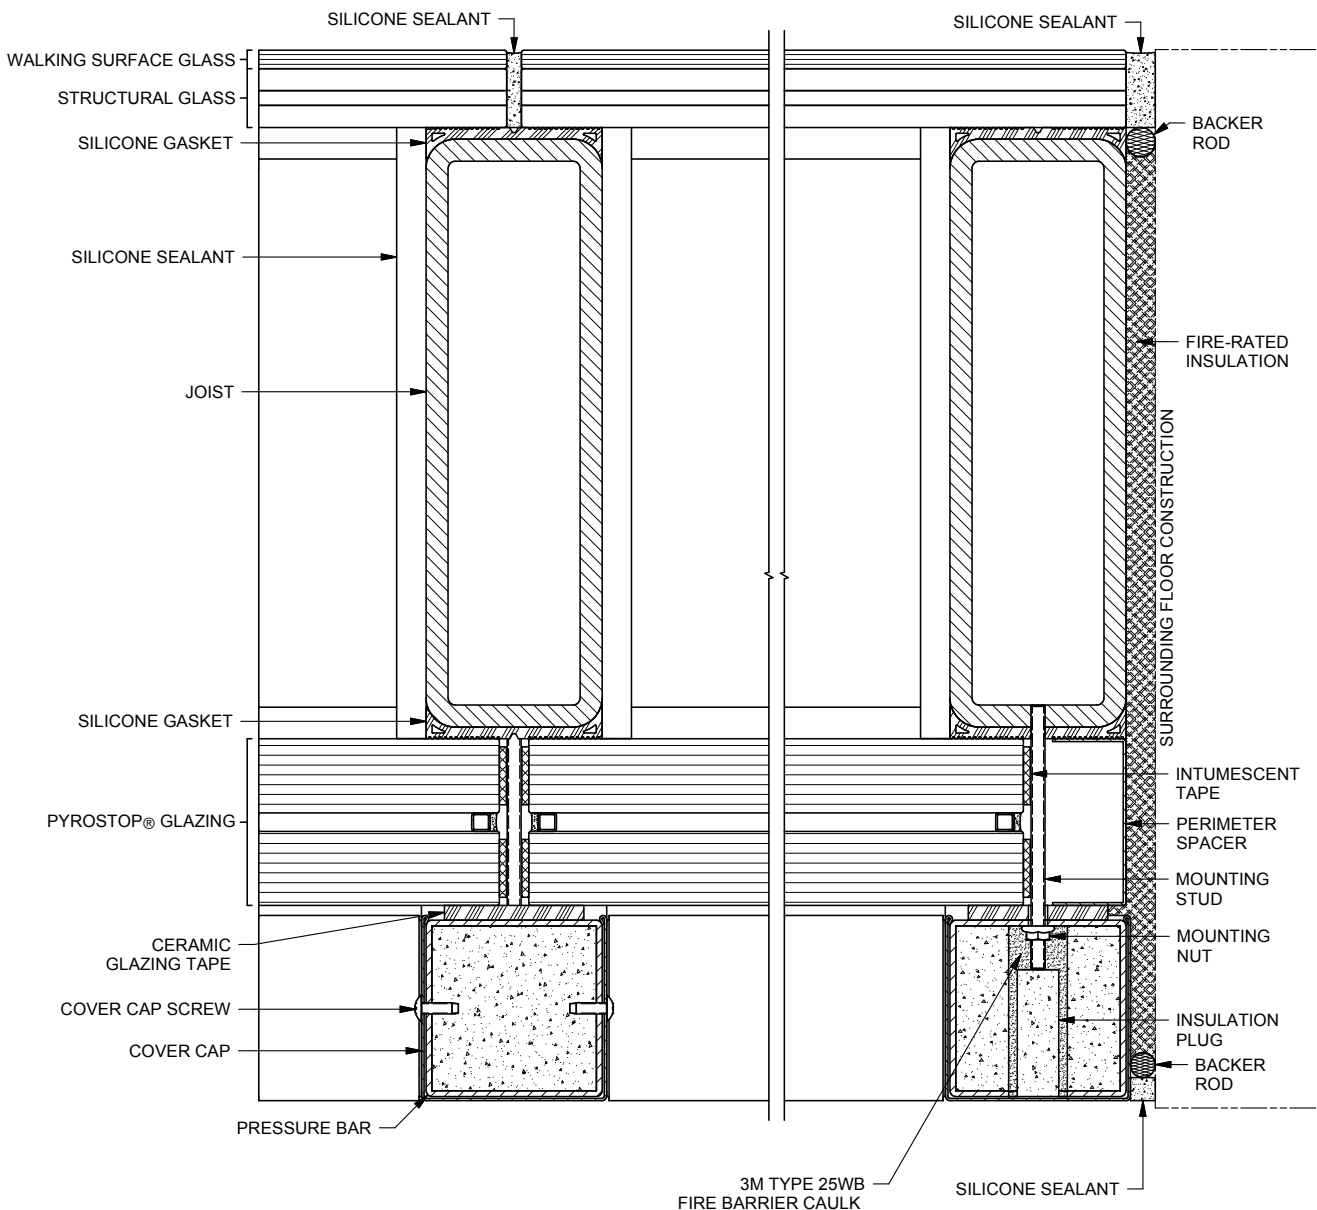

Figure 13: Section View
4. Using silicone, seal the gaps between the glass, tooling silicone into gap (See Figure 13).
1. Fire-rated insulation (such as mineral wool) must be installed around the entire perimeter of the framing to ensure the proper fire integrity of the system is maintained. From the top or bottom of the frame, fill cavity between the frame and surrounding structure (See Figure 13).